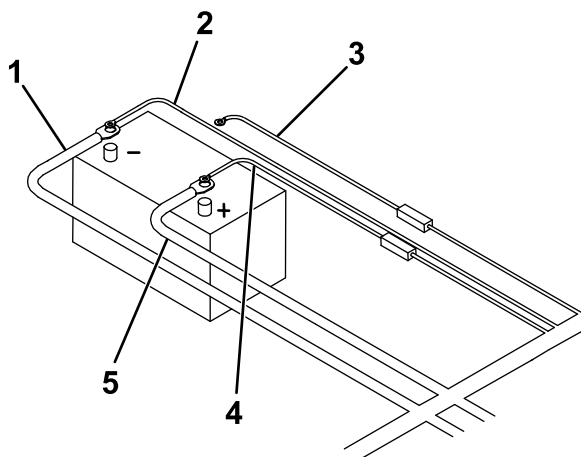

Figure 20
23. Connect the black power/ground cable to the negative (-) battery terminal (Figure 20).
24. Connect the brown wire to the negative (-) battery terminal (Figure 20).
25. Connect the free end of the battery cable to the positive (+) battery terminal (Figure 20).
26. Connect the red, fused wire and the red/white fused wire to the positive (+) battery terminal (Figure 20).